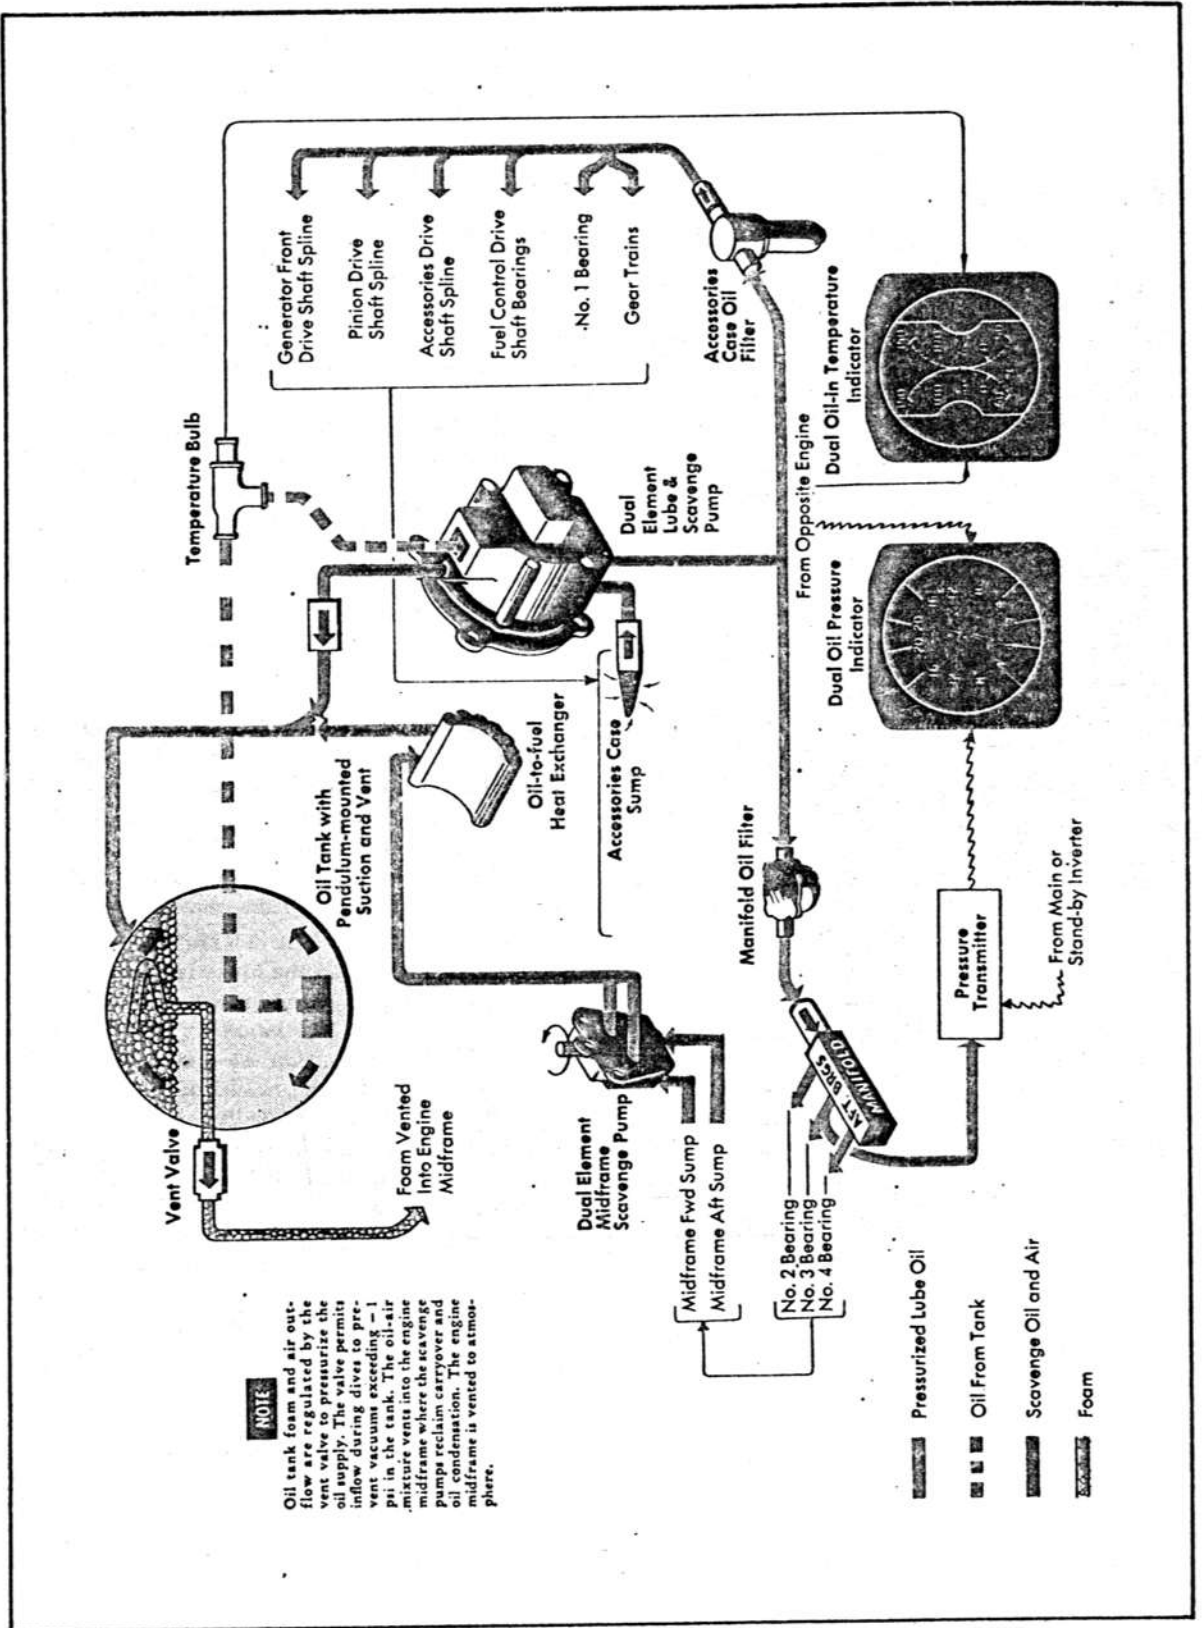

Figure 1-6. Oil System Schematic
**GENERAL.** (See figure 1-6.) Each engine incorporates a dry-sump full-scavenge oil system. (See figure 1-3 for information on the oil used in the system.) The oil tanks (usable capacity, 4.5 gallons; expansion space, 4.8 gallons; total volume, 9.3 gallons) incorporate a pendulum for inverted flight. A two-element gear-type pump provides both lubricating and scavenging and is mounted on the accessories drive casing of each engine. An additional scavenge pump is mounted in the midframe of the engine and returns oil from the three aft main bearings to the tank by the way of the oil-to-fuel heat exchanger.